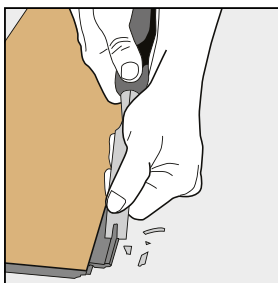
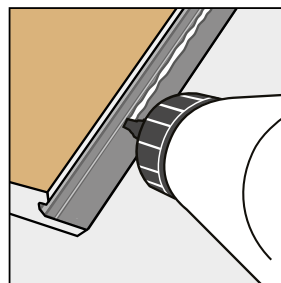

Figure 39
Figure 40
- ▶ Where the planks can no longer be installed together using the Angled Fold Down Installation method. Remove the upstand on the locking element of the protruding lower female profile (Fig 39). Then, use a suitable contact adhesive in accordance with the manufacturer's instruction (Fig 40) to connect the planks. Remember to place spacers between these planks and the wall to maintain the expansion gap.